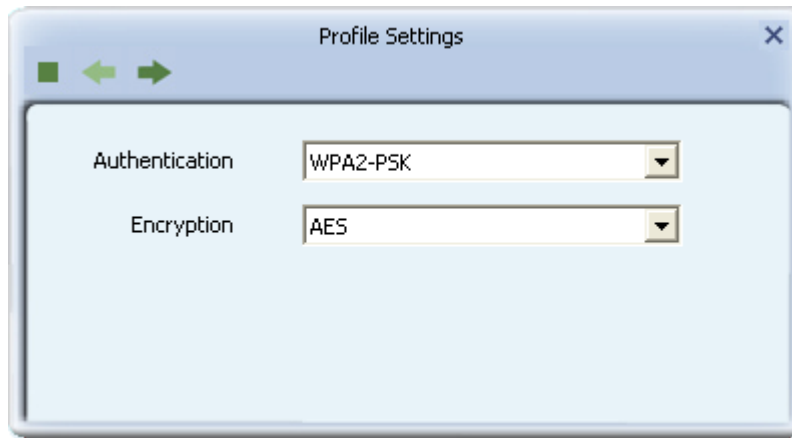

Figure 1-9: Authentication and Encryption
Step 3: Double click the wireless network name that with the best signal and the known password to open the Profile Settings screen, as shown in **Figure 1-9**.